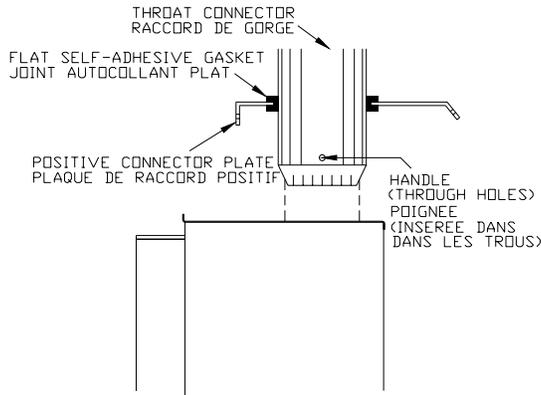

Figure 2
D. Install the flat self-adhesive gasket around the inside of the 6" diameter (152mm) hole in the plate. Put the handle through the two holes in the throat connector (see Figure 2). Install the female end of the throat connector up through the hole in the plate so that it is held in position by friction, ready to be pulled down later.